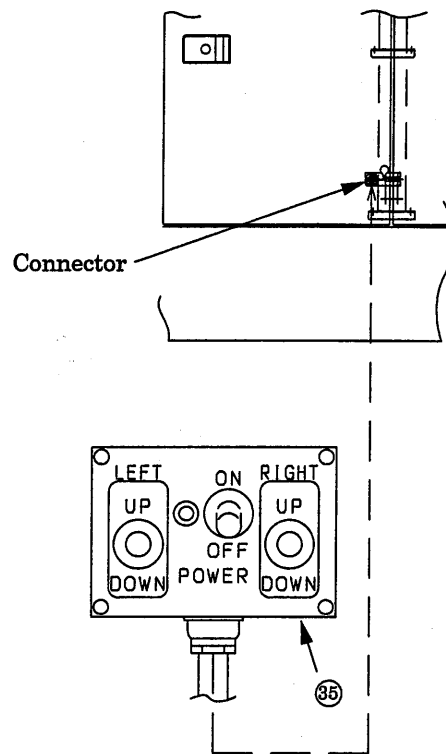

Fig 10-24
- (5) Connect the wiring connector of the swing flasher located on the counterweight.
- (6) Stop the engine. Then, disconnect the connector of the control box, and remove the box (Fig. 10-24).